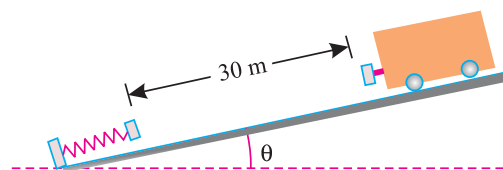

Fig. 30.8.
**Example 30.18.** A wagon of mass 50 tonnes, starts from rest and travels 30 metres down a 1% grade and strikes a post with bumper spring as shown in Fig. 30.8.